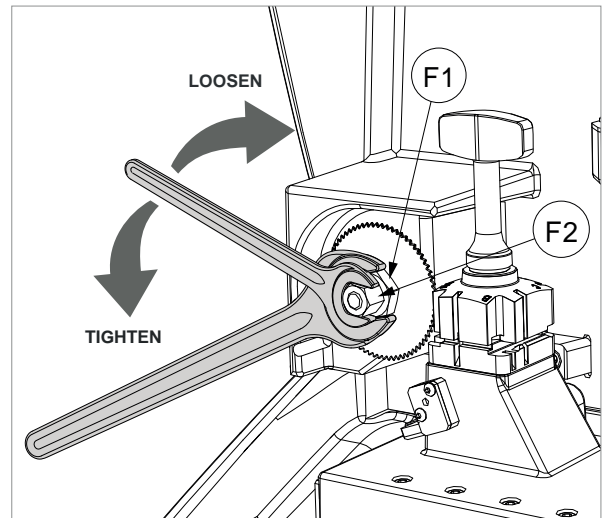

Fig. 43
- 4) Use a 13mm wrench (provided) to LOOSEN THE NUT (F2) CLOCKWISE (Fig. 43). **ATTENTION: THE THREAD IS LEFT-HANDED.**